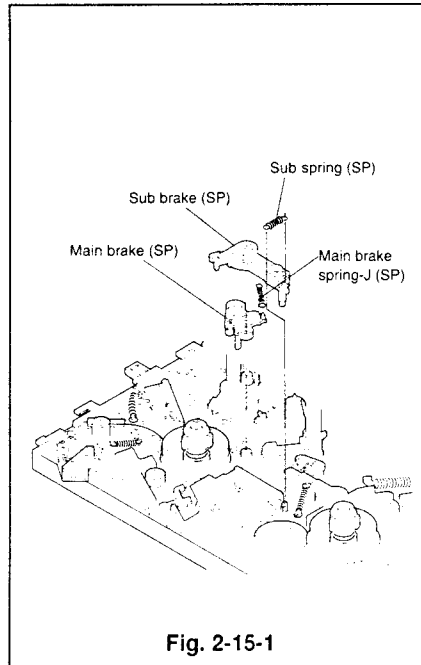

Fig. 2-15-1
2-15 Main Brake (SP) and Main Brake Spring J(SP) (Refer to Fig. 2-15-1.)